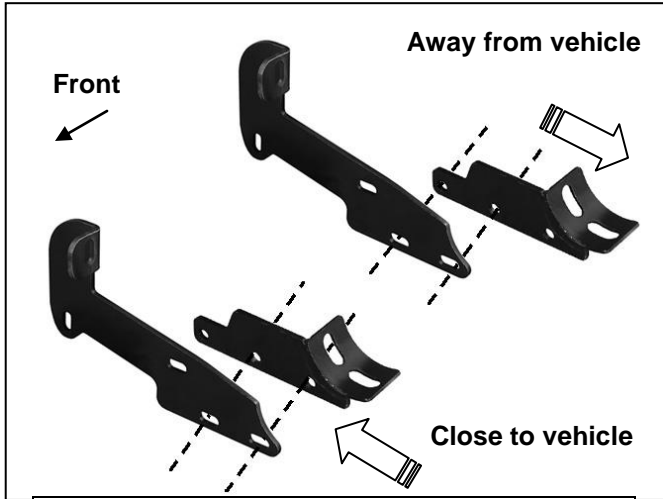

**Fig 14A**
12. Move to the rear mounting location in front of the driver side rear tire opening. Locate the large oval and the round holes in the inner body panel in front of the rear tire, **(Figure 13)**. Select (1) 10mm Double Bolt Plate and (1) 10mm Plastic Retainer, **(Figure 14A)**. Insert the Bolt Plate into the oval hole and up and out of the smaller round hole above it. Thread the Plastic Retainer onto the Bolt Plate over the round hole only, **(Figure 14B)**.